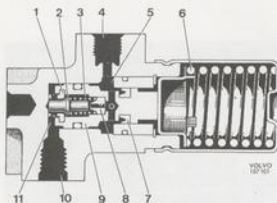
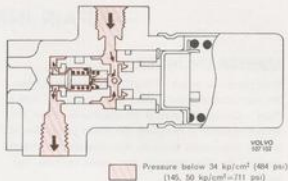

Fig. 5-40. Brake valve, construction
Fig. 5-41. Brake application
A brake valve is connected to each of the rear wheel brake lines, see Fig. 5-6. When the incoming brake pressure exceeds $34 \text{ kp/cm}^2 = 484 \text{ psi}$ ($145, 50 \text{ kp/cm}^2 = 711 \text{ psi}$) a reduction takes place in the valve. The more powerful the pedal pressure, the greater the reduction and thereby the larger the difference between the hydraulic pressure in the front wheel and rear wheel cylinders. This results in a suitable distribution of braking force between both pairs of wheels. The construction of the brake valve is shown in Fig. 5-40 and its function is the following:
When the footbrakes are applied, the pressure from the master cylinder is transmitted via the connection (4, Fig. 5-40). The pressure then proceeds through the cylinder (5), the counterbore, past the valves (8) and (2) to cylinder (11) and then on through connection (10) to the rear wheel cylinders, see Fig. 5-41. The hydraulic pressure per unit surface is equal on the different parts of the piston (9), but since its pressure surface is larger in cylinder (11) than in cylinder (5), the force developed will move the piston to the right of the figure. However, this is counteracted by the pressure from the spring (6).
When the brake pedal is released, the pressure in the cylinder (4) falls. The piston (9) is moved to the right by the spring (6). When the pressure on the right-hand side of the valve (13) falls so much that the hydraulic pressure on the left-hand side enables the valves to be actuated, the connection between both the cylinders is opened again. As the pressure falls, the spring (6) presses the left piston back to its original position where the valve is held in the open position by mechanical means, see Fig. 5-41. The equalizing valve (8) is fitted with control channels which ensure an even flow of pressure through the valve.